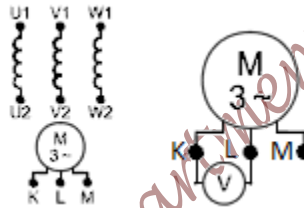

Figure 5.3 Rotor connection for the slip ring motor as a transformer
1. Keep the previous connection, only change the rotor connection as shown in Figure 5.3
3. Record the reading of the voltmeter of Figure 5.3 on the rotor